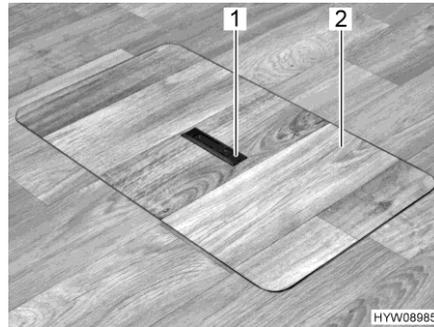
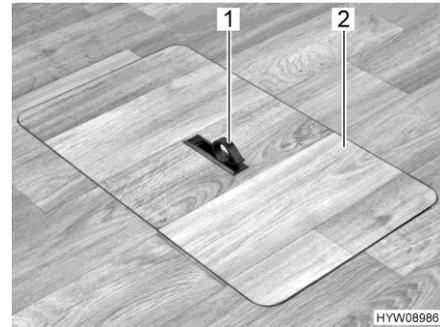

Fig. 53 Floor storage compartment cover (handle recessed)
Fig. 54 Floor storage compartment cover (handle swung out)
- Push one side of the grip plate (Fig. 53,1) downwards. The handle (Fig. 54,1) swivels upwards.
- Remove the cover (Fig. 54,2) upwards.
- Insert the cover (Fig. 54,2) in the frame on the floor.